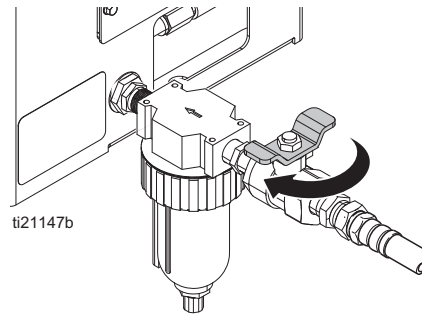

FIG. 11
12. Attach a 3/8 in. minimum air supply line to air filter. See FIG. 11.